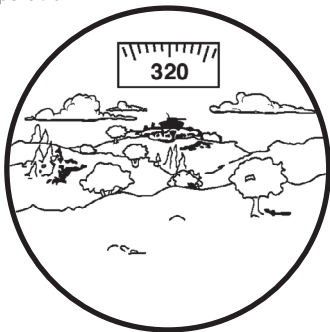

FIGURE 2.22. VIEW THROUGH INSTALLED COMPASS
(3) To view the compass through the monocular, grip the compass with index finger on top and thumb on illumination button on bottom. Press button slowly with thumb until proper brightness is obtained. The image should appear as shown in Figure 2.22.
(4) The compass readings should change when you move your head from side to side. Rotate or tap compass slightly to ensure compass is operating correctly. Hold the monocular in a level position to assure free rotation of the compass scale.
(5) The tick mark closest to the center of the lighted display is the compass bearing. The tick marks are in degrees, with longer tick marks every five degrees and bearing labels every 10 degrees.